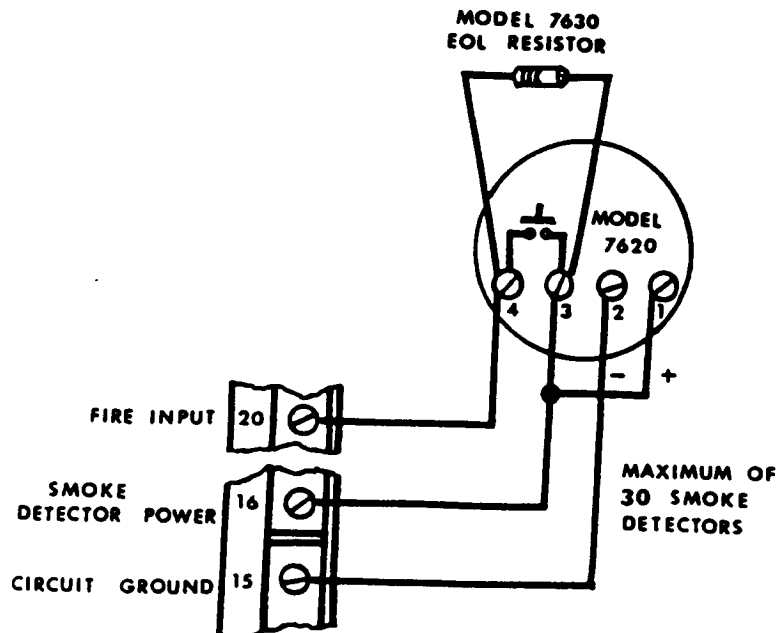

FIGURE 4
The Model 7620 Smoke Detector can be used when wiring the fire zone of the Model 2720. Figure 4 illustrates how it should be wired. The Model 7620 Smoke Detector is rated at 50 uA. in the normal supervisory condition and 15 mA. in the alarm condition. A maximum of thirty (30) 7620's may be used with the 2720 Control Panel.